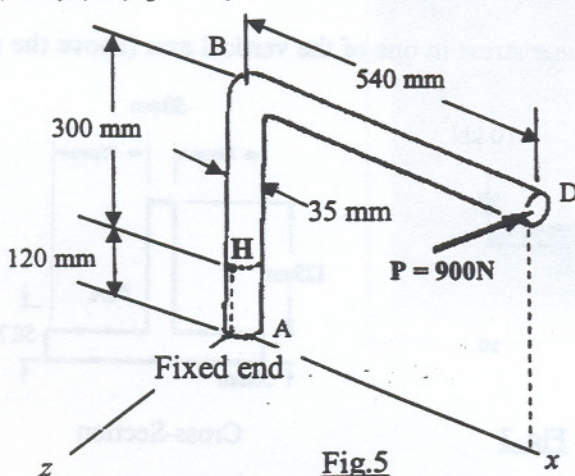

Fig.5
- 12 5. A single horizontal force $P = 900$ N is applied to the end D of lever ABD (Fig. 5). The diameter of the lever bar is 35 mm. Determine (a) the normal and shearing stresses on the element located at point H and having sides parallel to x and y axes; (b) the principal stresses at point H. You may use the equation: